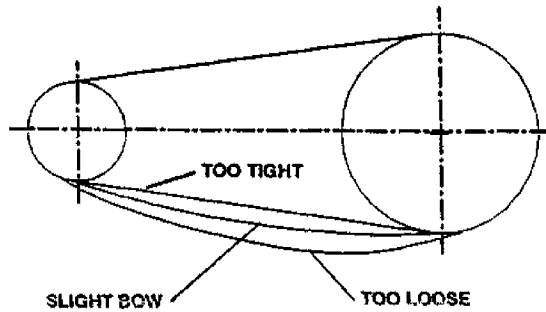

FIG. 4
STEP 1 : Reduce the center distance so that the belts may be placed over the sheaves and in the grooves without forcing them over the sides of the grooves. Arrange the belts so that both the top and bottom spans have about the same sag. Apply tension to the belts by increasing the center distance until the belts are snug. See Fig. 4.